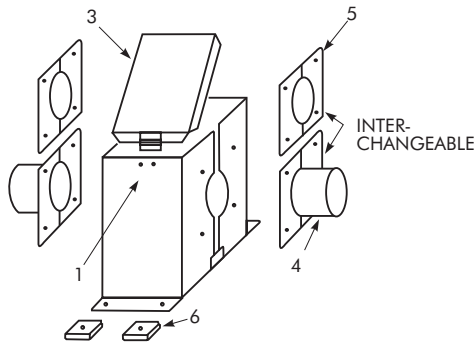

Figure 5 FLAT TOP GUARD
5. Assemble remaining sleeve halves or enclosure plates per Figures 5 and 6 on Page 1.
6. Bolt cover to pre-drilled flat top guard half per Figure 5 using $\frac{1}{4}$ -20 UNC x $\frac{7}{16}$ " screws.